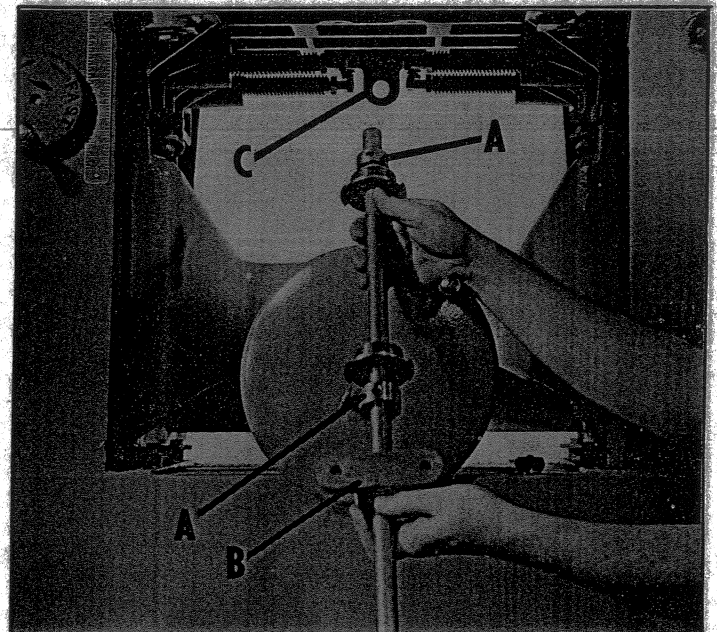

Fig. 3
4. Slip the two collars (A) on cam shaft, as shown in Fig. 3. **DO NOT TIGHTEN SCREWS IN THE TWO COLLARS.** Slip front bracket (B) Fig. 3, on cam shaft as shown.
5. Insert end of cam shaft in the rear bracket (C) Fig. 3, and attach the front bracket (B) to the underside of the bed using two 1-1/4" long hexagon head cap screws and lockwashers. Tighten screws that attach brackets (B) and (C) to underside of bed.